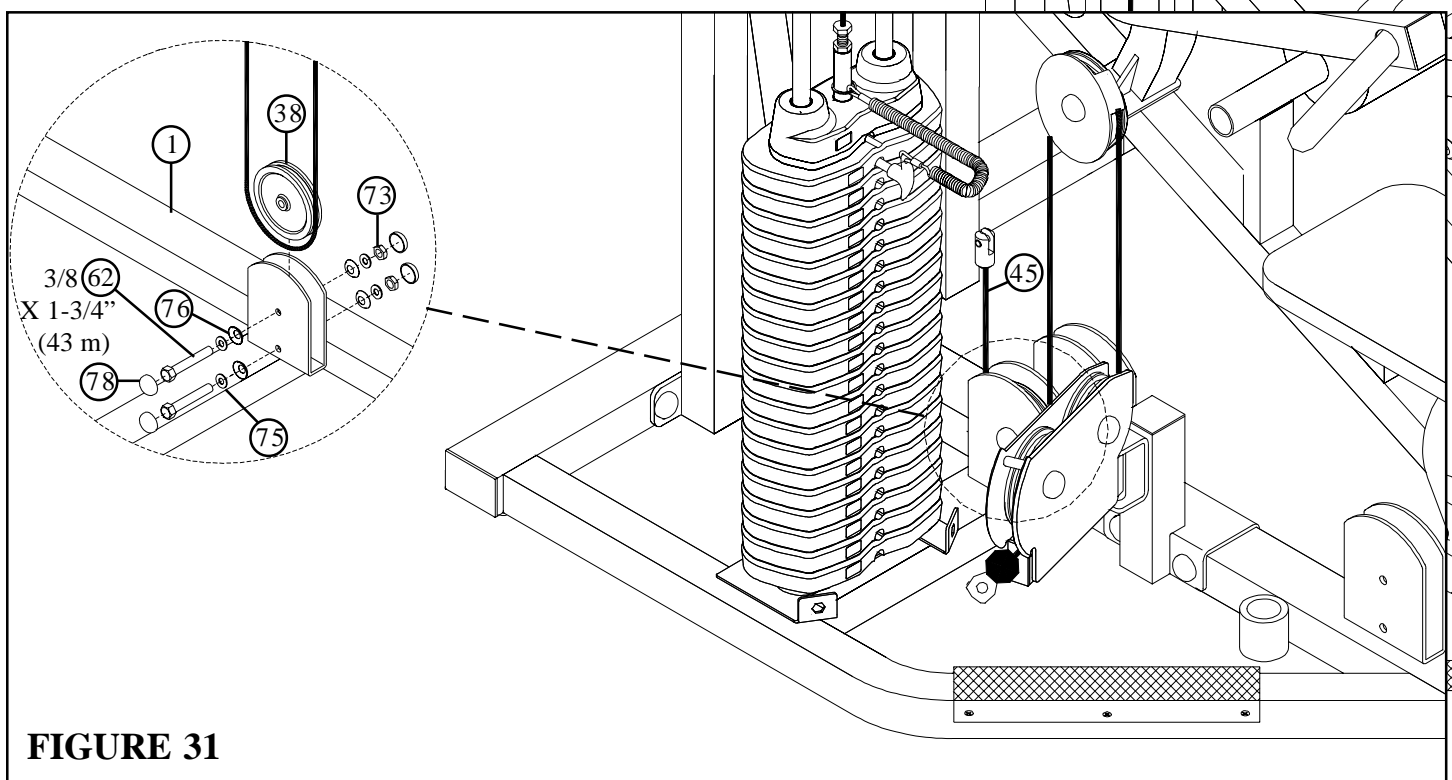

FIGURE 31
- Route the LEG CABLE (45) around a 4-1/2" PULLEY (38) and assemble it to the bracket on the BASE (1) using four RH CAPS (78), two 3/8 X 1-3/4" BOLTS (62), four 3/8" SAE WASHERS (75), four 3/8" RH WASHERS (76) and two 3/8" LOW HEIGHT LOCK NUTS (73) as shown in FIGURE 31.